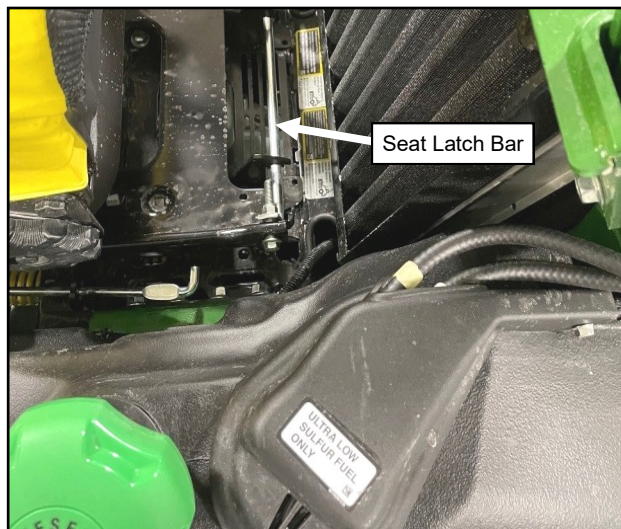

Fig. 1.26 (Tilt Seat Forward)
1.26 Tilt the seat forward. See Figure 1.26.